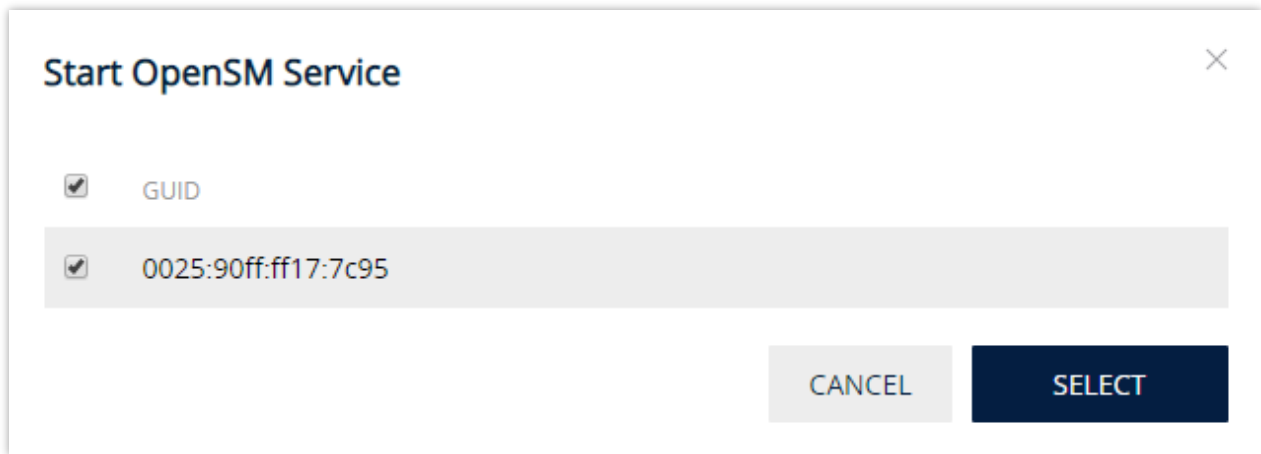

Figure 37. Start OpenSM Service window
- Click the **OpenSM** button. A window to specify OpenSM service parameters opens (Figure 37).